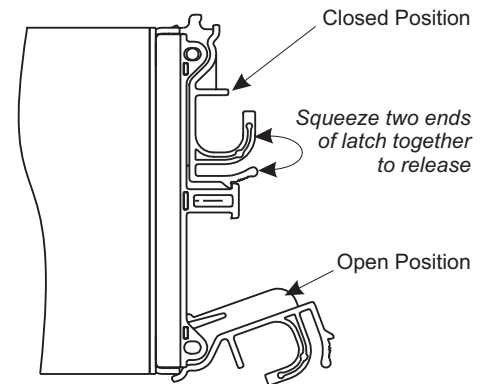

Figure 3 I/O & RAID Module Latch
2. Cam the module home by manually closing the latches (see Figure 3).